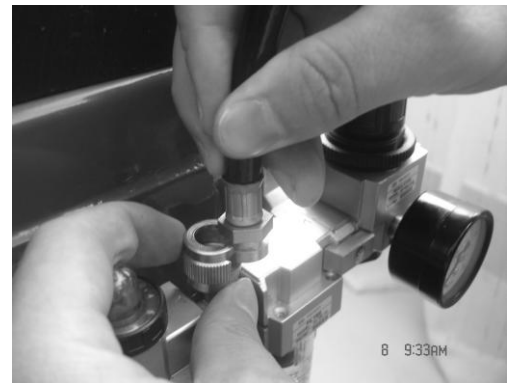

Fig16
3.3.3 Connect the inflation gun and the inflation gauge box : Inlay the adapter of the inflation gun or inflation box into the open nut on the air source fitting. Tighten the open nut. See the fig16 and then connect the air source.